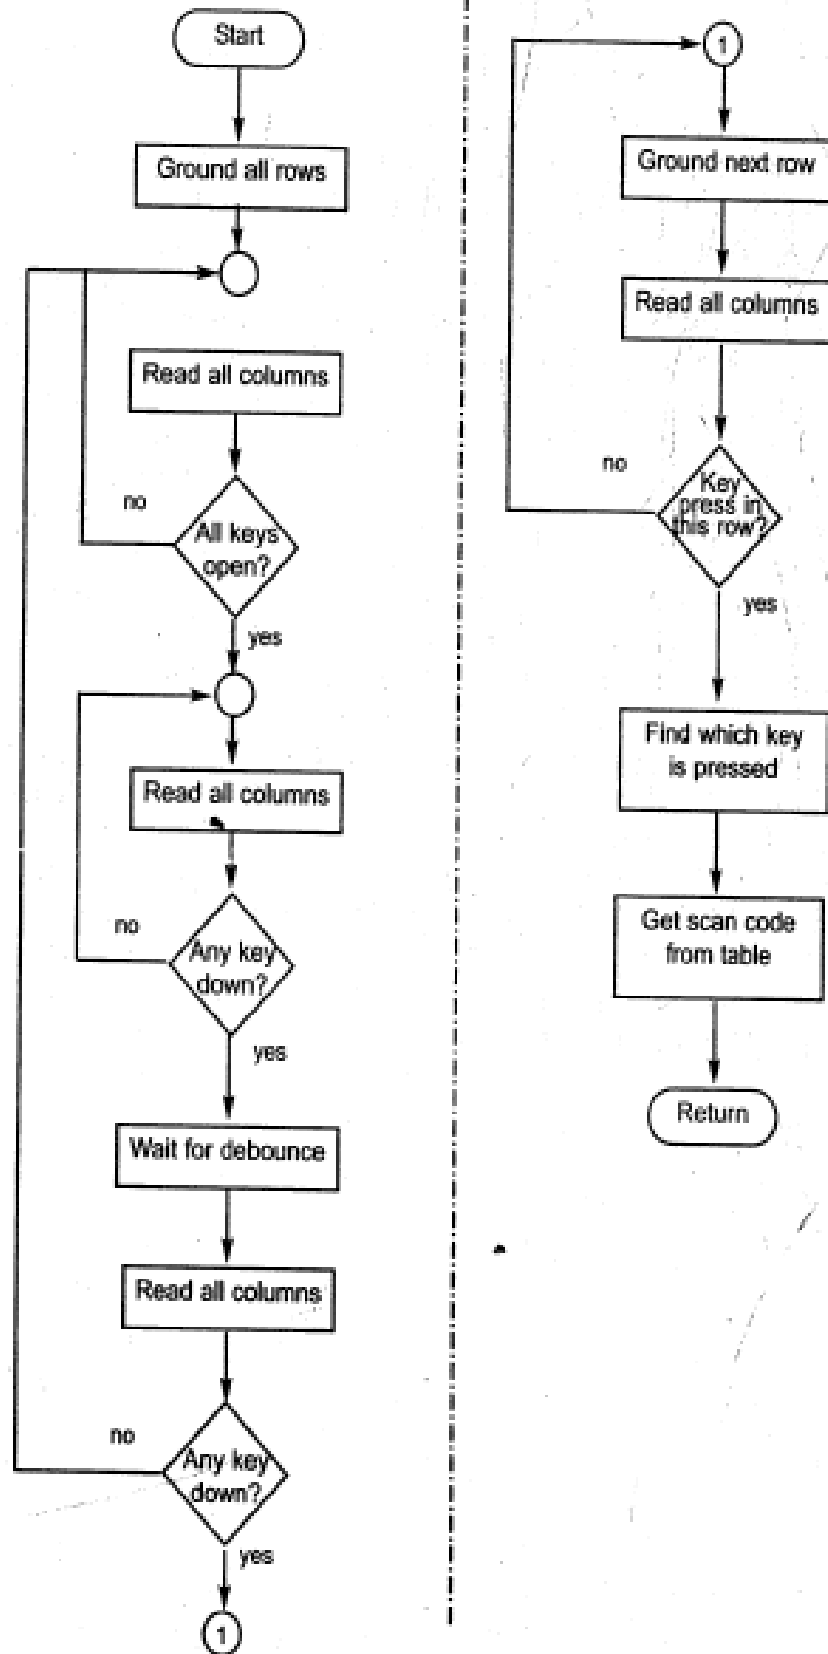

Figure 5.4 Flowchart for Programming Keyboard Interfacing
- To identify the key press, the microcontroller rotates the column bits, one bit at a time, into the carry flag and checks to see if it is low. Upon finding the zero, it pulls out the ASCII code for that key from the look-up table; otherwise, it increments the pointer to point to the next element of the look-up table. Figure 5.4 flowcharts this process.
- Figure 5.4 provides the flowchart for keyboard interfacing Program for scanning and identifying the pressed key.